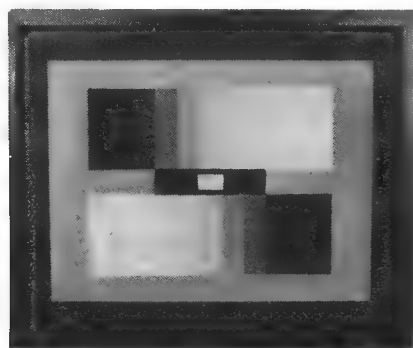

Fig 7.3 Grey-scale Pattern
- \* Grey-scale pattern with  $\gamma = 2.2$  (with 3:4 aspect ratio) and 11 steps (see Fig 7.3)